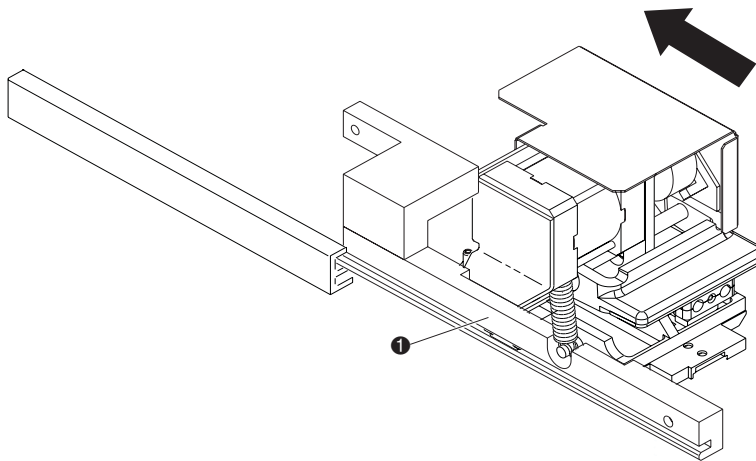

Figure 4-22. Reinstalling the gripper restraint
1. Pull the gripper all the way out toward you (see Figure 4-22).
2. Insert the gripper restraint ❶ into the follower guide so that it is in the same position as shown in Figure 4-22.